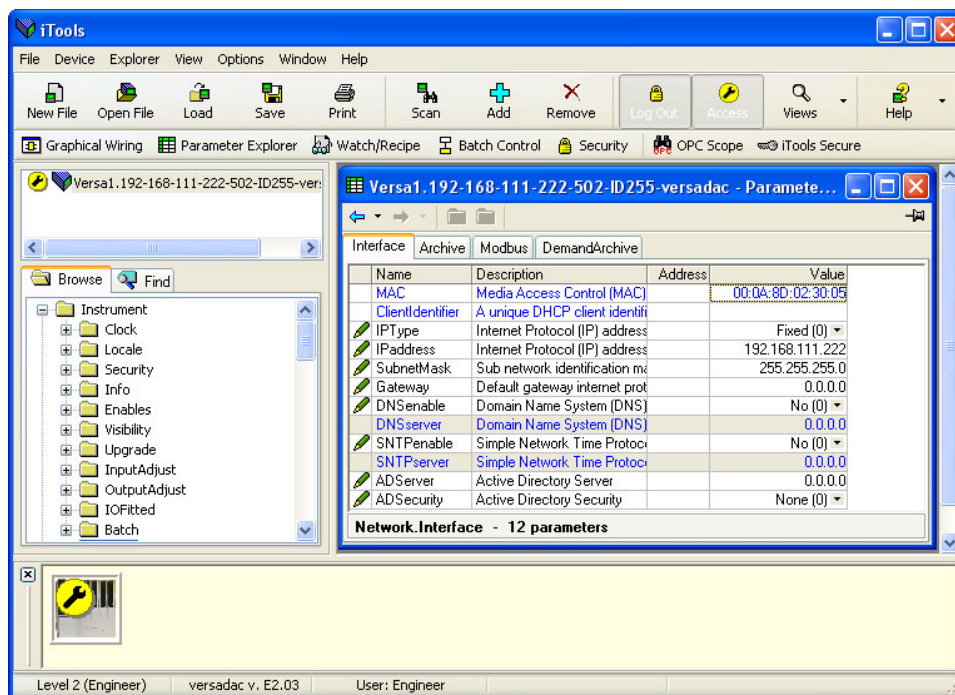

Figure 49 Parameter table example
In each case the function block parameters appear in the iTools window in tabular form, such as the example in Figure 49.
Figure 49 shows the default table layout. Columns can be added/deleted from the view using the 'Columns' item of the Explorer or context menus (Figure 50).
- Columns. The default explorer window (Figure 49) contains the columns 'Name', 'Description', 'Address' and 'Value'. As can be seen from Figure 50, the columns to be displayed can be selected, to a certain extent, using either the 'Explorer' menu or the context menu. 'Limits' have been enabled for the example above.